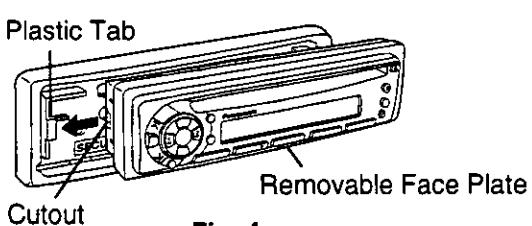

Fig. 4
- ① Slide the left side of the removable face plate in place. (→ Fig. 4)